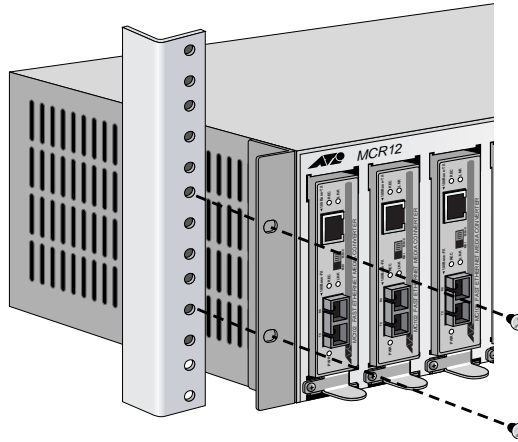

Figure 2. Installing the Chassis in a Rack
5. Mount the chassis on the rack with two screws (not provided) on each side, as illustrated in Figure 2.